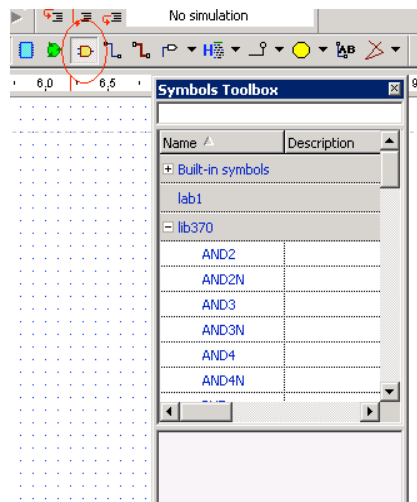

Figure 13
5. Open the Symbols Toolbox by clicking the Symbols Toolbox icon in the toolbar (Figure 13).